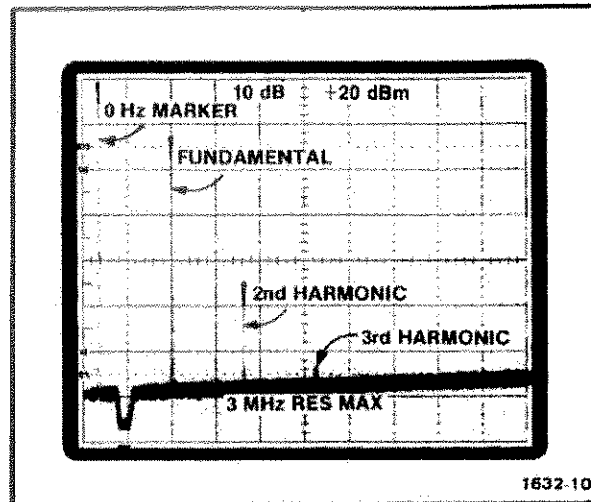

Fig. 3-4. Display of 100 MHz signal and harmonics.
- e. Position the zero frequency marker to the left edge of the graticule with the spectrum analyzer position control. A display similar to Fig. 3-4 should be obtained.
d. Position the zero frequency marker to the left edge of the graticule with the spectrum analyzer position control. A display similar to Fig. 3-4 should be obtained.